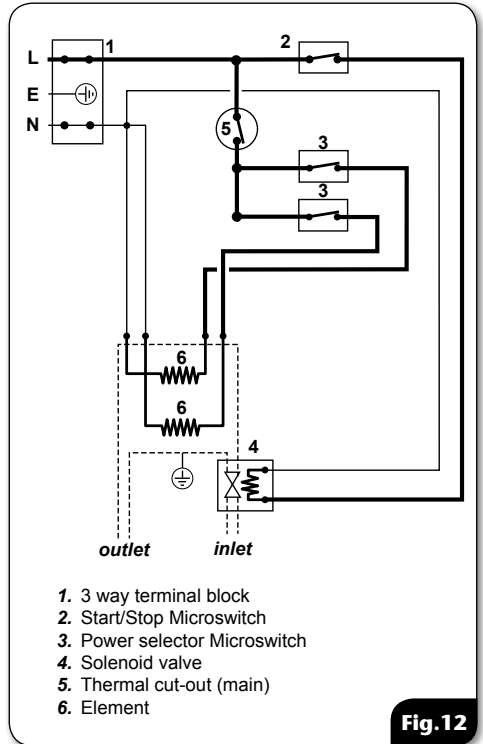

Fig.12
- (fig.12) shows a schematic wiring diagram.